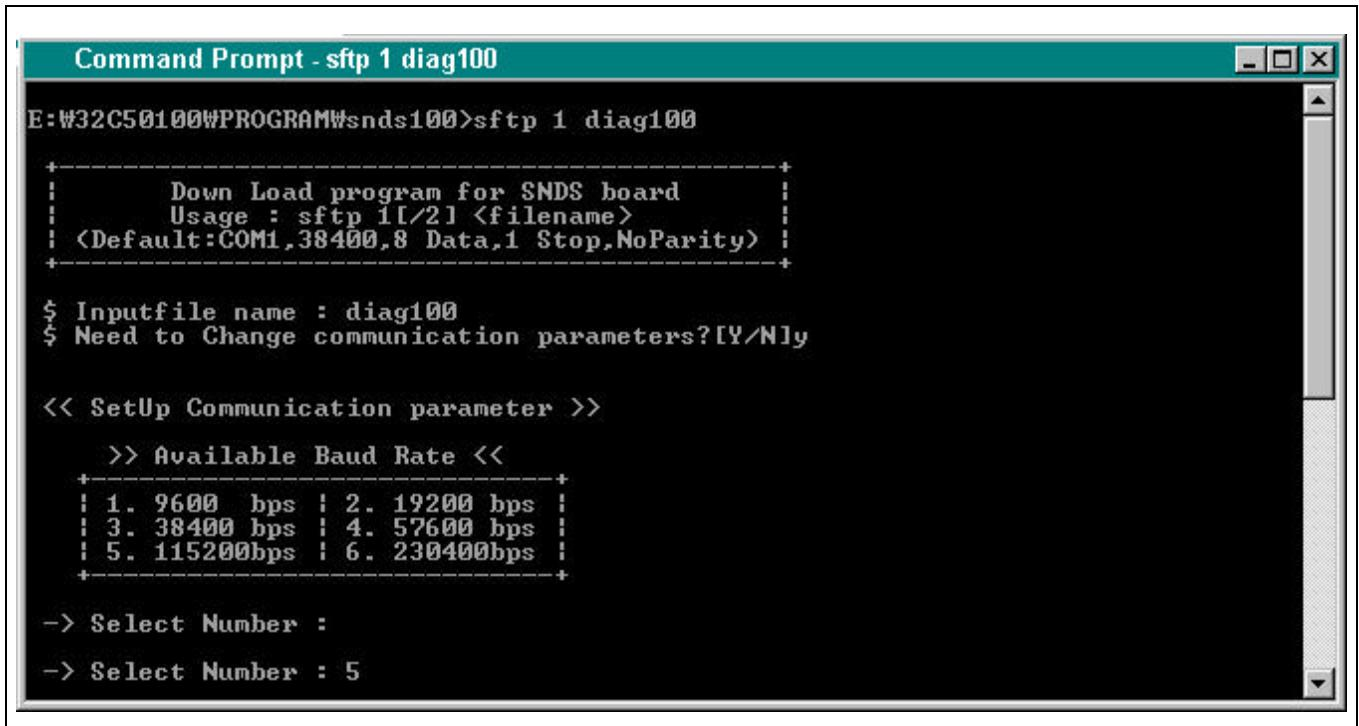

Figure 2-21. Start Download Binary Image File to Target on Host Computer
- Start download the binary image file on host computer.(refer to Figure 2-21)